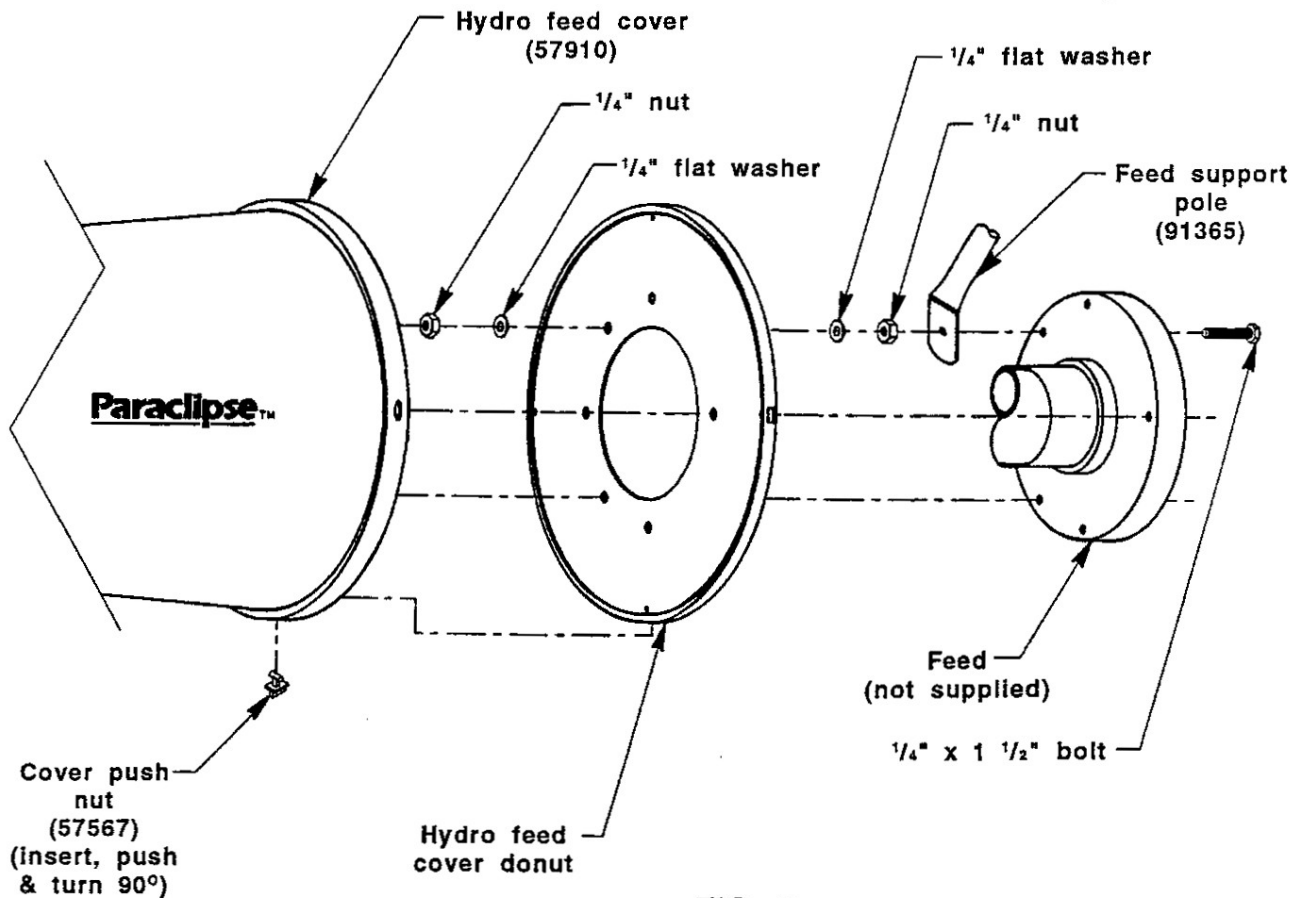

FIG. 8
4. Attach the feed and the Hydro feed cover donut to the feed support poles using three $\frac{1}{4}$ " x $1 \frac{1}{2}$ " bolts, six $\frac{1}{4}$ " flat washers, and six $\frac{1}{4}$ " nuts. (See Fig. 8)